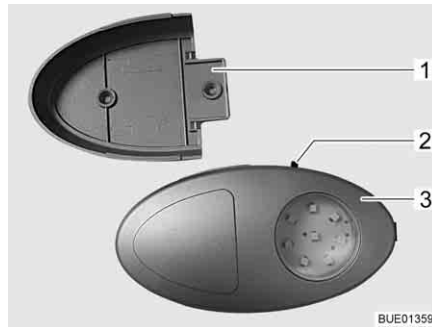

Fig. 70 Wardrobe light
- ▷ The wardrobe light can be removed from its holder (Fig. 70,1) and used as a torch.
The On/Off switch (Fig. 70,2) is located directly on the wardrobe light (Fig. 70,3).